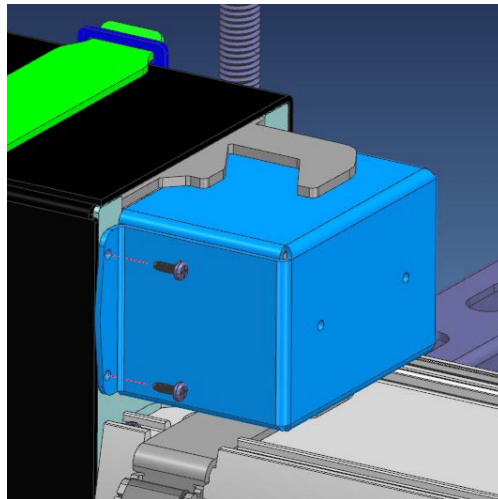

Figure 24 – Install protective cap and secure
2. Install protective cap in top module of PFM and secure into place with included M3 screws (Figure 24).